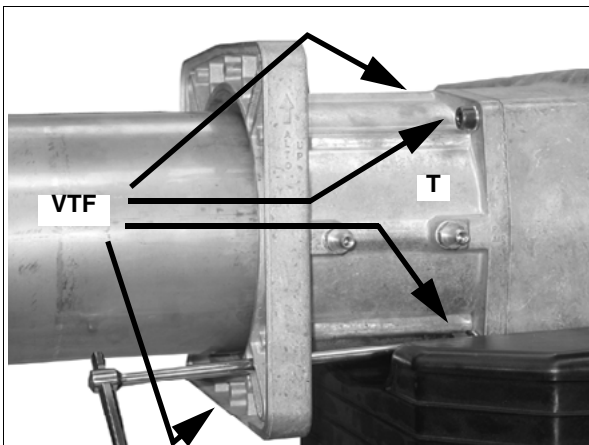

Fig. 10
- 2 Remove the flanged piece T by removing the 4 socket head screws VTF (Fig. 10).